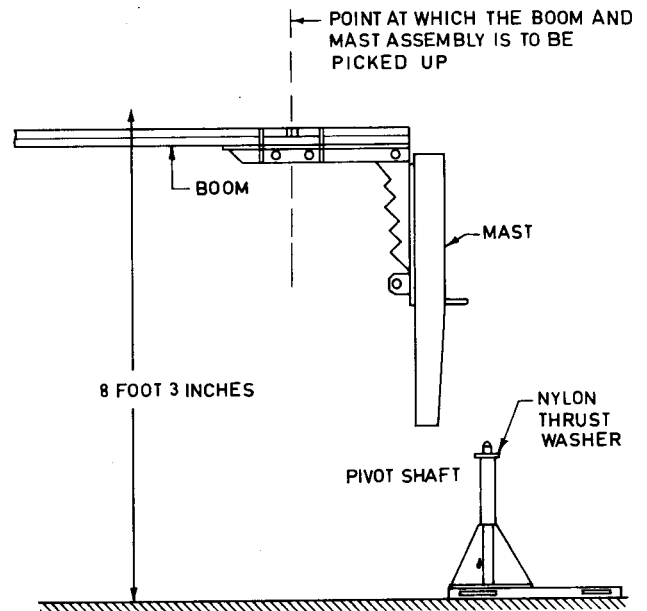

Figure 1
- 4) The mast-boom assembly is shipped in a folded up configuration. In order to install this unit over the pivot shaft, a means of lifting this assembly and moving it into position over the pivot shaft is required. The maximum weight of the assembly is approximately 730 lbs, and it must be lifted to a height of 8 feet, 3 inches as shown in Figure 1.